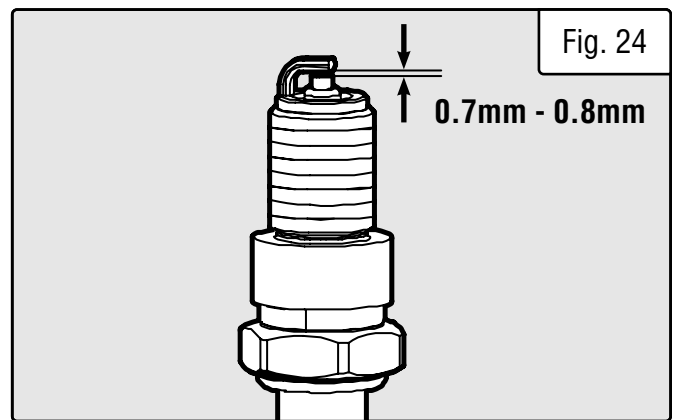

Fig. 24
5. Measure the plug gap with a spark plug gap gauge. The gap should be 0.7mm - 0.8mm (0.028 in. - 0.031 in.). Carefully adjust the gap if necessary (Fig. 24).